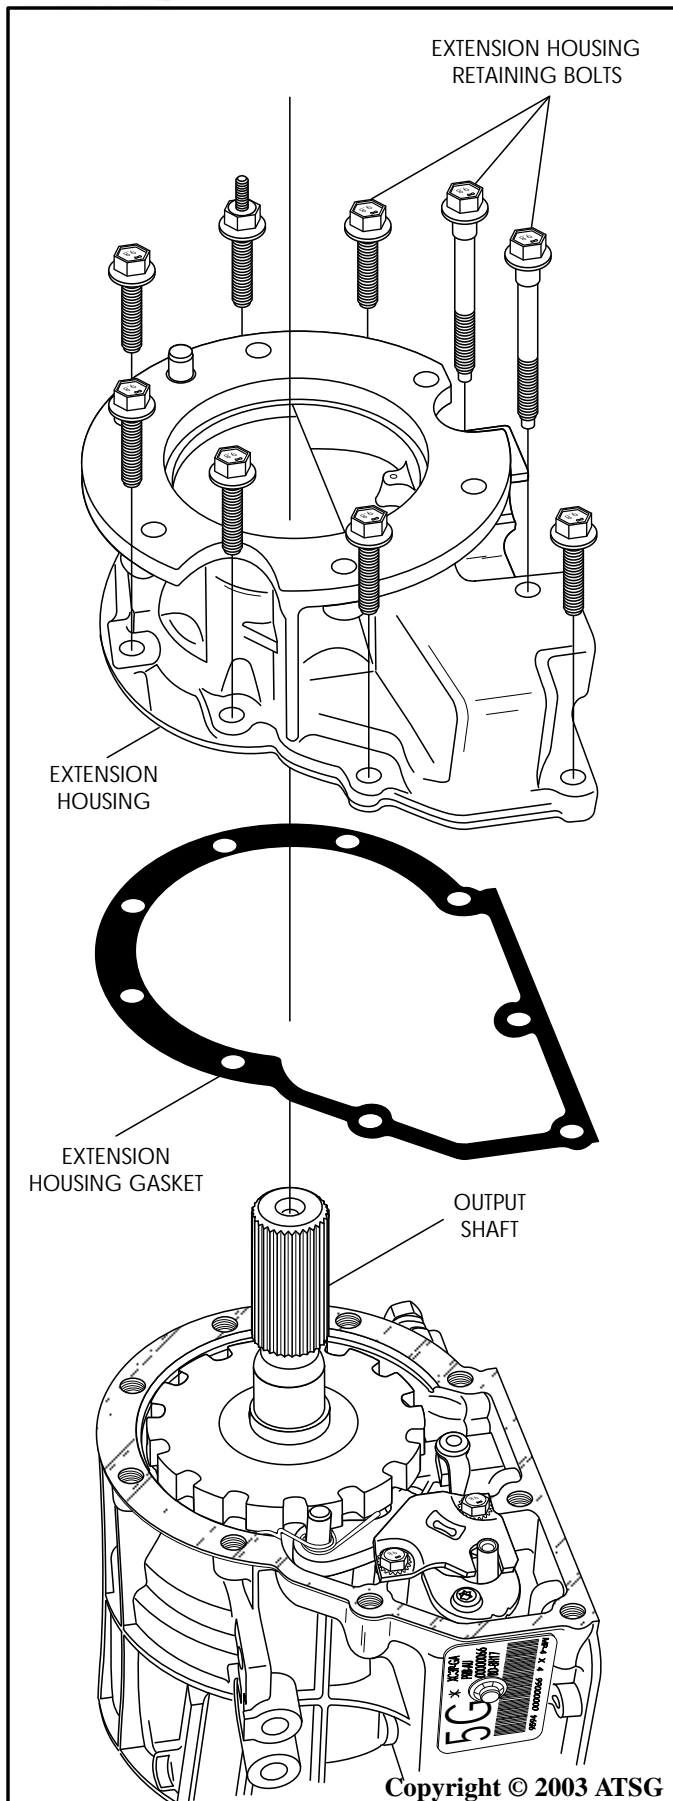

Figure 92
25. Install new extension housing gasket on case surface, as shown in Figure 92.
26. Install the 4WD extension housing, as shown in Figure 92.
28. Install extension housing and retaining bolts, as shown in Figure 92.